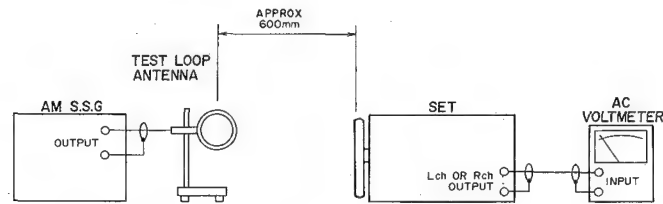

Fig. 7-1 Instrument Connections for AM (MW, LW) Section Adjustment
7-4. AM (MW) ADJUSTMENT (Refer to Figs. 7-1 and 7-3)
7-5. LW ADJUSTMENT (AT-M11L ONLY) (Refer to Figs. 7-1 and 7-3)